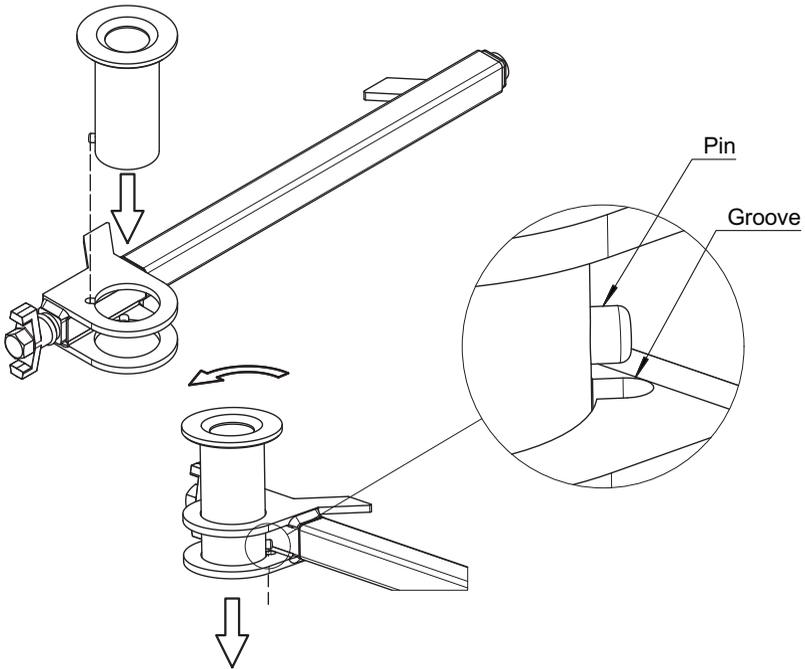

Figure 20. *Installing the Steel Flange Cup.*
5. Install the cup into the lower Steel Column Clamp. There is a pin located on the side of the cup, which has to pass into the grooves on each lug on the clamp. The grooves in the lugs are not aligned so the cup must be turned to pass through both lugs. See Figure 20 for a detailed view.